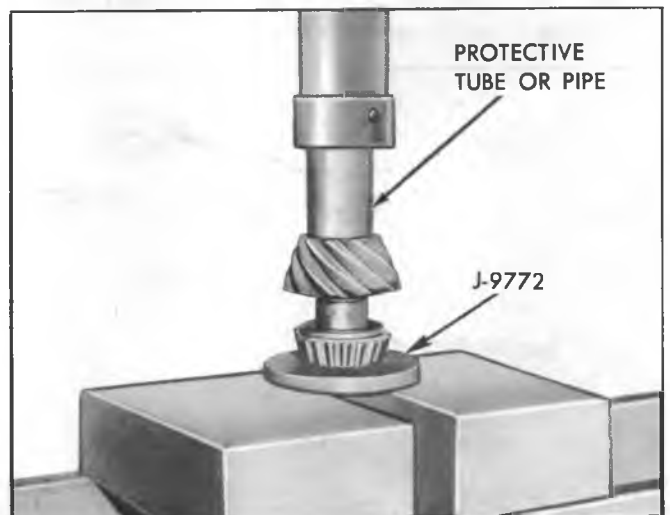

Fig. 17C--Installing Pinion Rear Bearing
10. Position pinion shim selected in Step 8 on pinion head and press pinion bearing on pinion using J-9772 Press Plate. See Figure 17C.